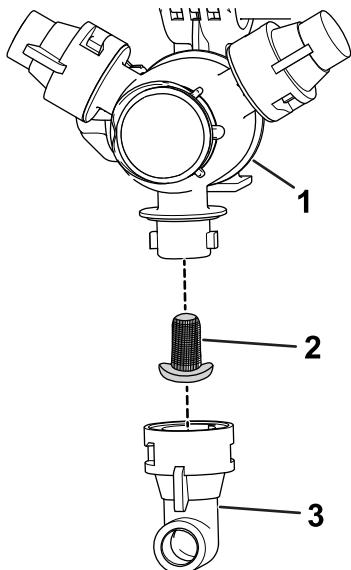

Figure 52
2. Remove the nozzle from the spray turret (Figure 52).
3. Remove the nozzle filter (Figure 52).
5. Install the nozzle filter (Figure 52).
6. Install the nozzle onto the spray turret (Figure 52).